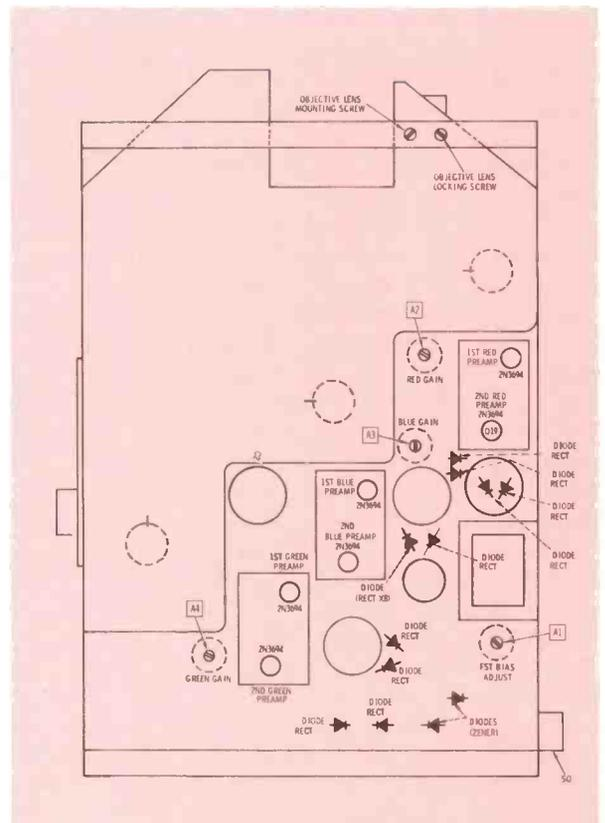

Fig. 13 Illustration of Scanner chassis showing adjustments.
3. Adjust down the TV brightness control until the TV raster is completely extinguished. Turn the FST bias adjustment, A1 (Fig. 13), fully counterclockwise.
2. Loosen the four holding screws on the FST housing and the one screw locking the objective lens (see Fig. 13). NOTE: Both the flying-spot scanner tube and the objective lens must be movable to per-